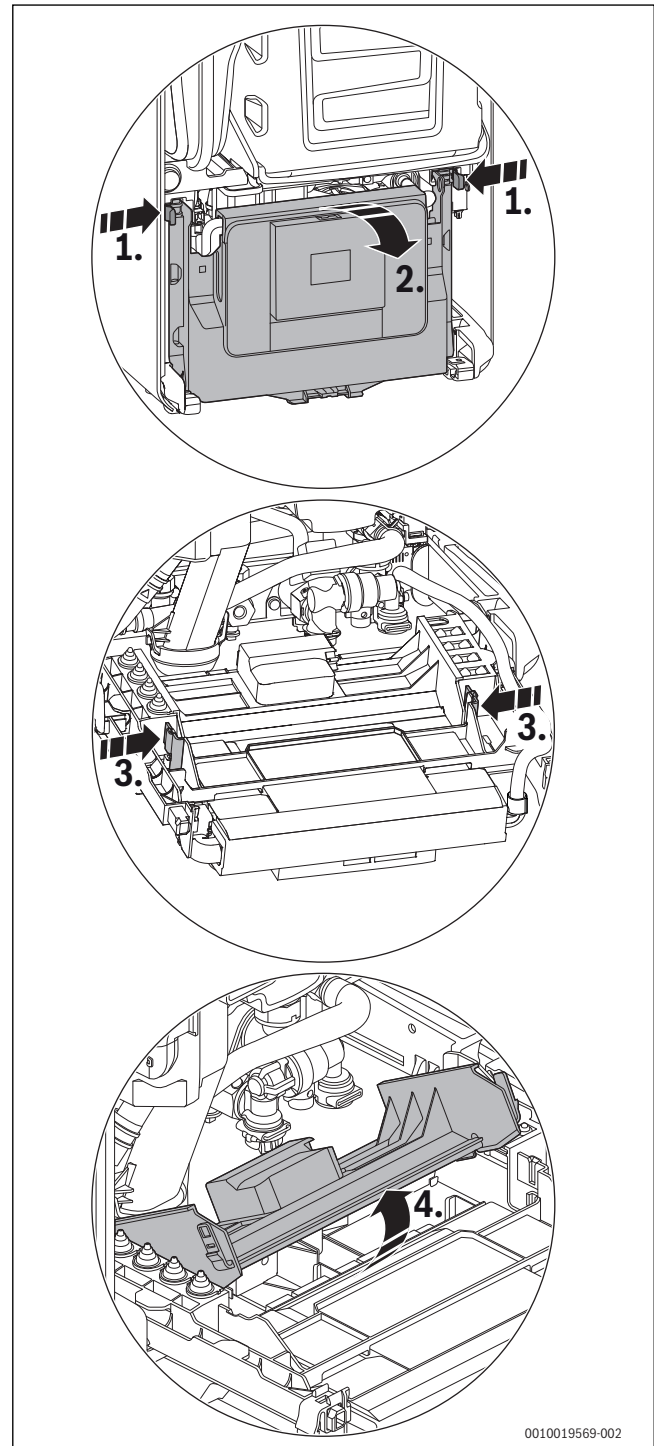

Fig. 51 Opening the cover
If the power cable is of insufficient length, accessing the connection terminal (→ Fig. 51)
- ▶ Flip down the control appliance (→ Fig. 51).
- ▶ Flip down the control unit(→ Fig. 51).